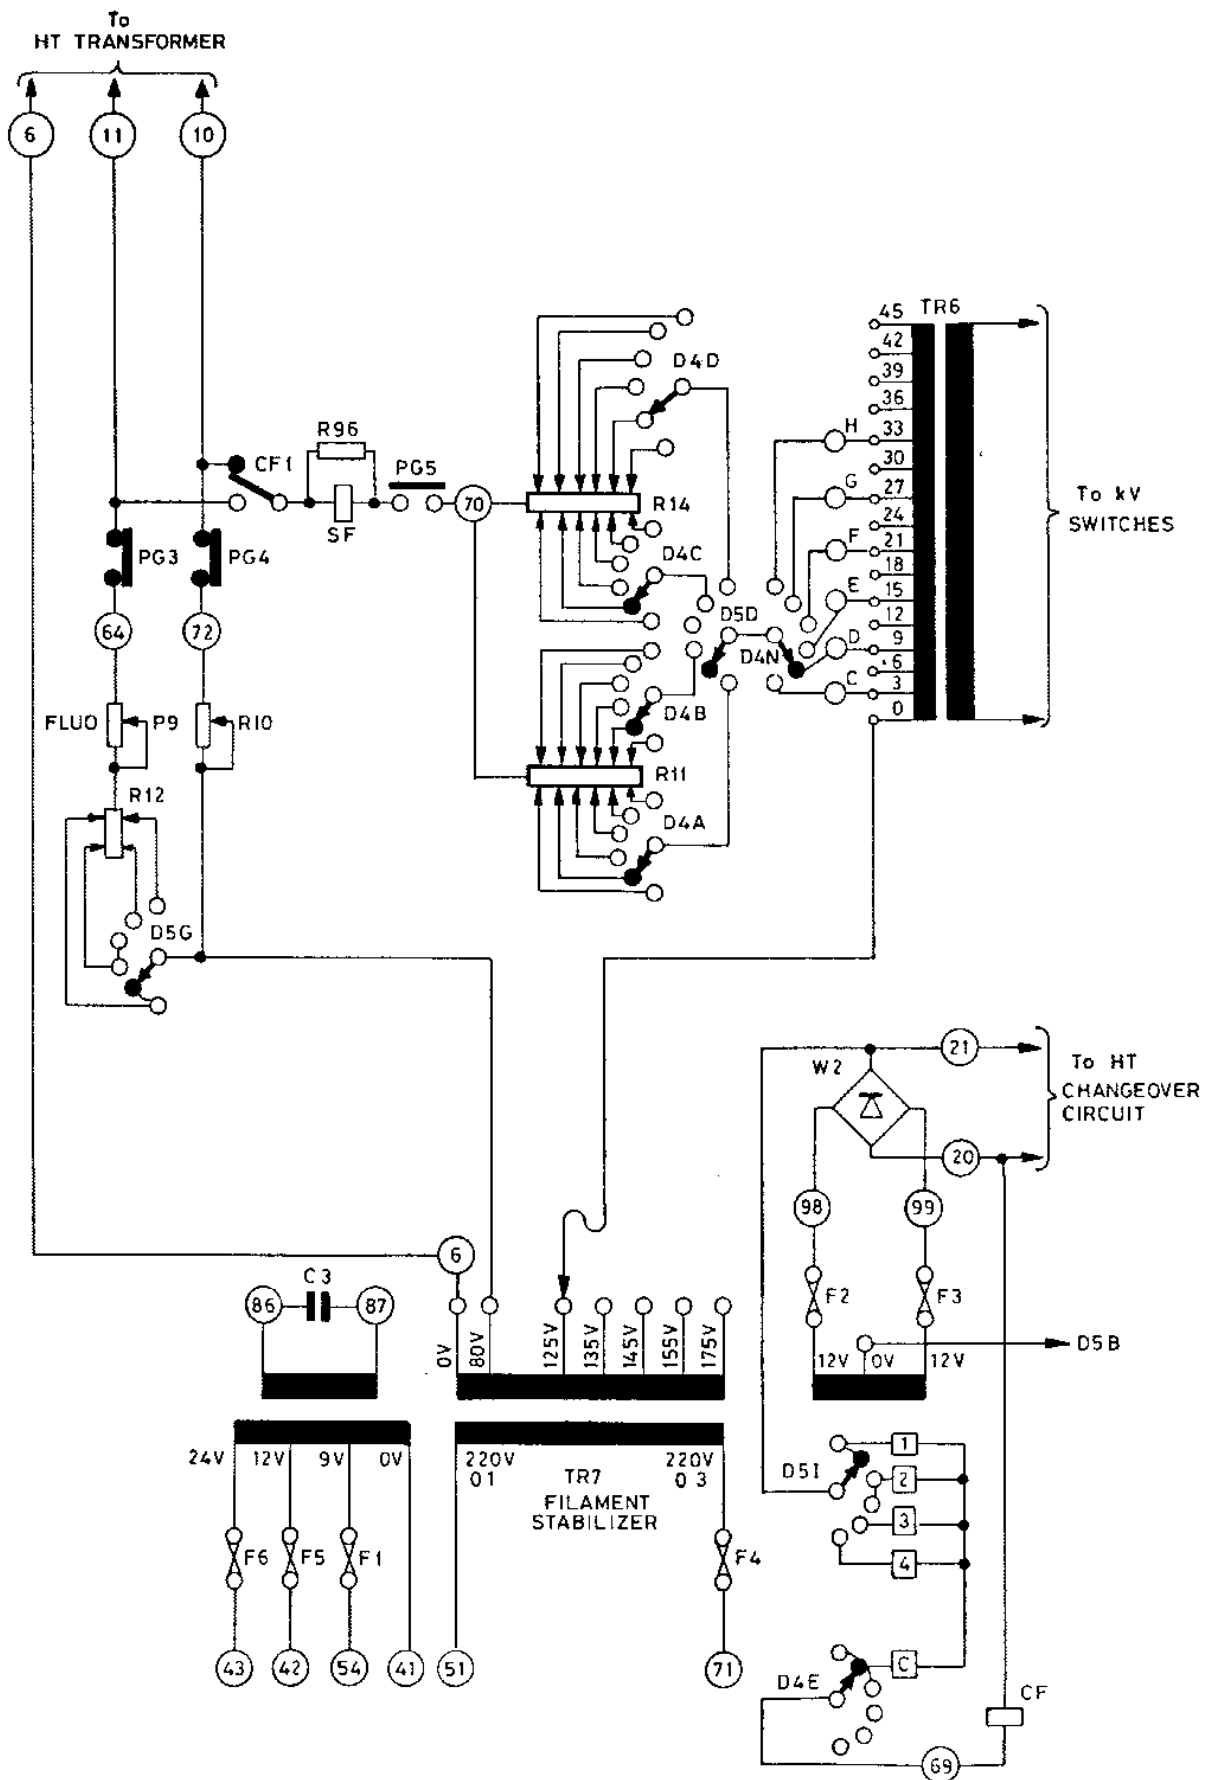

Fig 38 TUBE FILAMENT CIRCUIT
9.5 TUBE FILAMENT CIRCUIT (Fig 38, page 81)